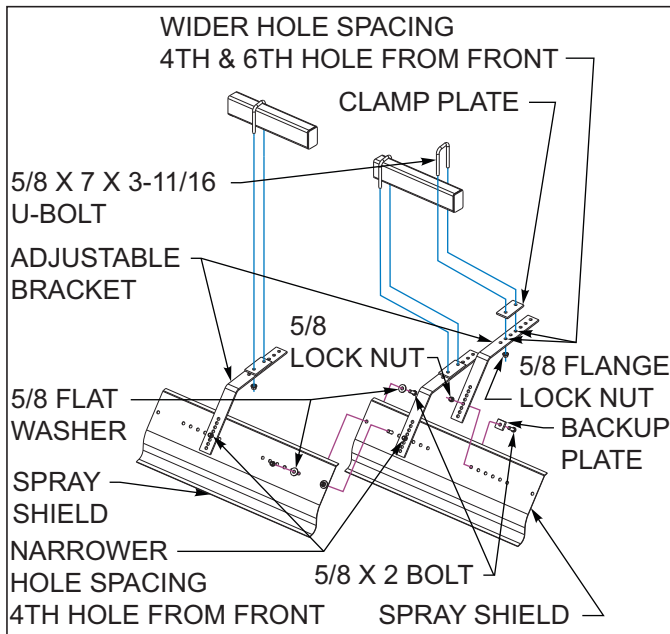
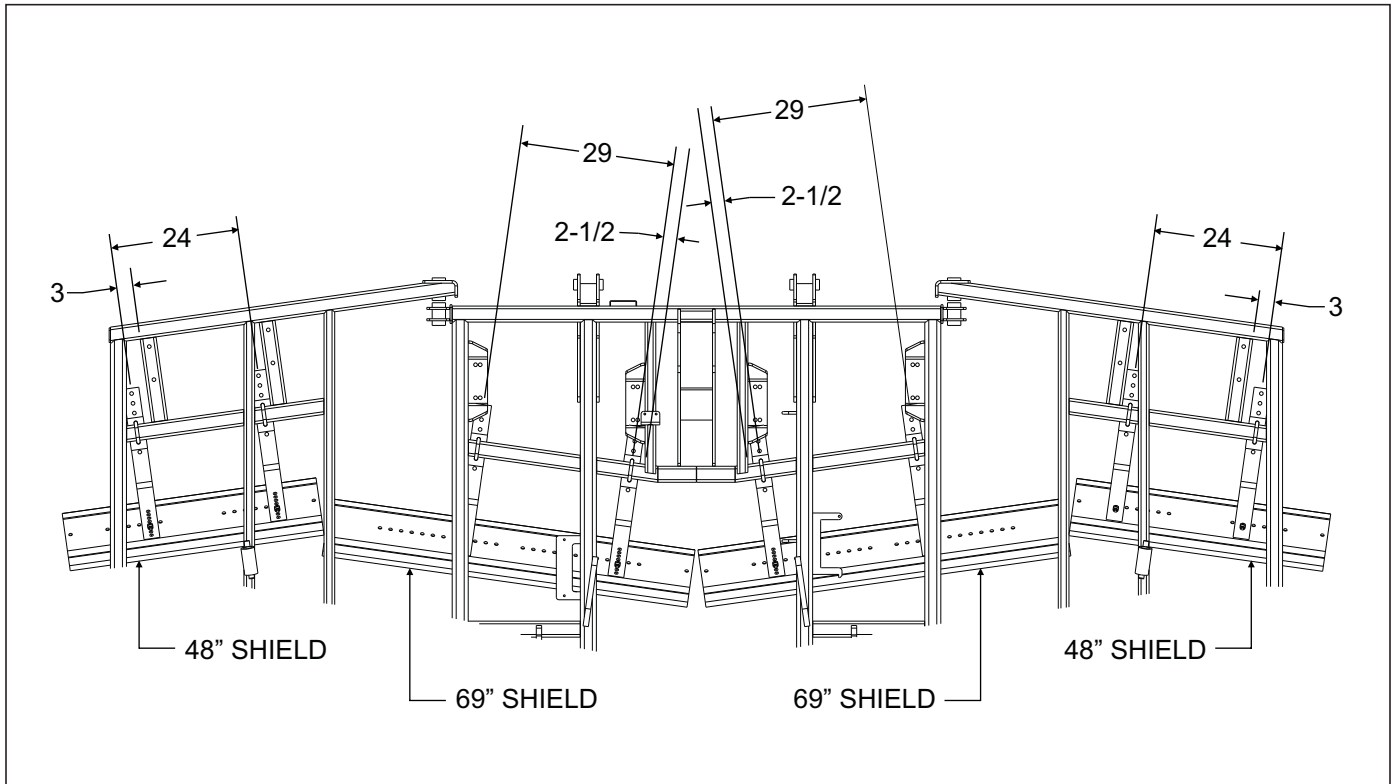
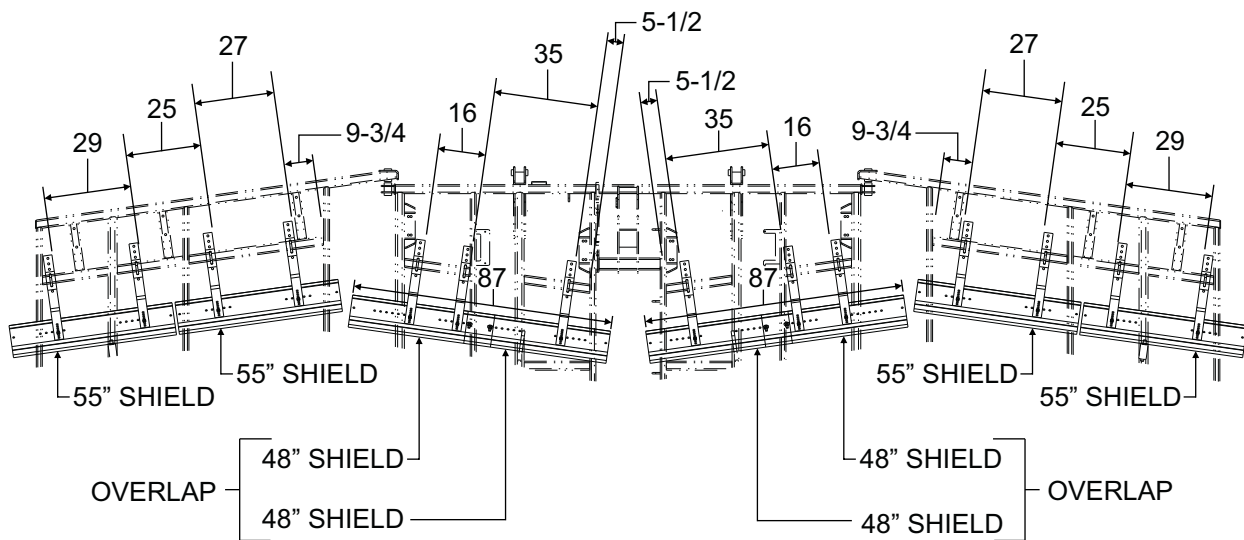

Figure 3-17: Gang Shield Assembly
Figure 3-26: Gang Shield Installation - 19'
Figure 3-32: Gang Shield Installation - 35'
7. Optional Gang Shield Assembly – **See Figure 3-17** Refer to the Gang Shield Layout drawings for proper placement **See Figures 3-26 through 3-32**. Install 5/8-11 x 7 x 3-11/16 u-bolts on frame, through the clamp bracket through the 4th & 6th holes from the front (wider hole spacing) of the adjustable brackets, secure with 5/8 flange lock nuts. Attach the spray shields to the adjustable bracket in the 4th hole from the bottom (narrower hole spacing) using 5/8-11X2 bolt, backup plates, and 5/8 lock nuts. On 33' & 35' models bolt the adjustable brackets to frame and spray shield as shown in first part of step 5. Now attach both spray shields together with 5/8 x 2 bolts, 5/8 flat washers, one on top and bottom side, secure with 5/8 flange lock nuts. When all components are in positions shown **See Figures 3-26 through See Figure 3-32**, all bolts may be tightened to specs.